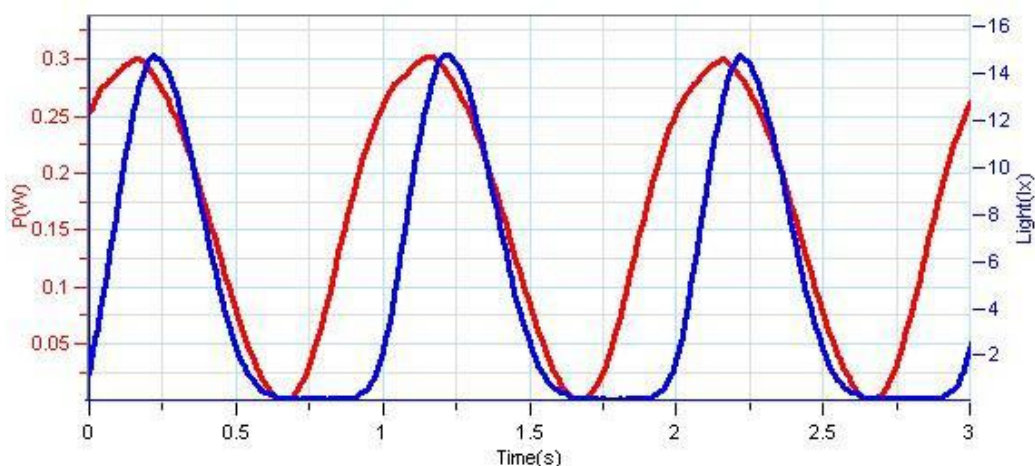

Figure 4
2. During the experiment with the light bulb you may use a Light sensor simultaneously with the Voltage and Current sensors. You can then compare the power output with the light intensity (see Figure 4). To display a graph of the power: